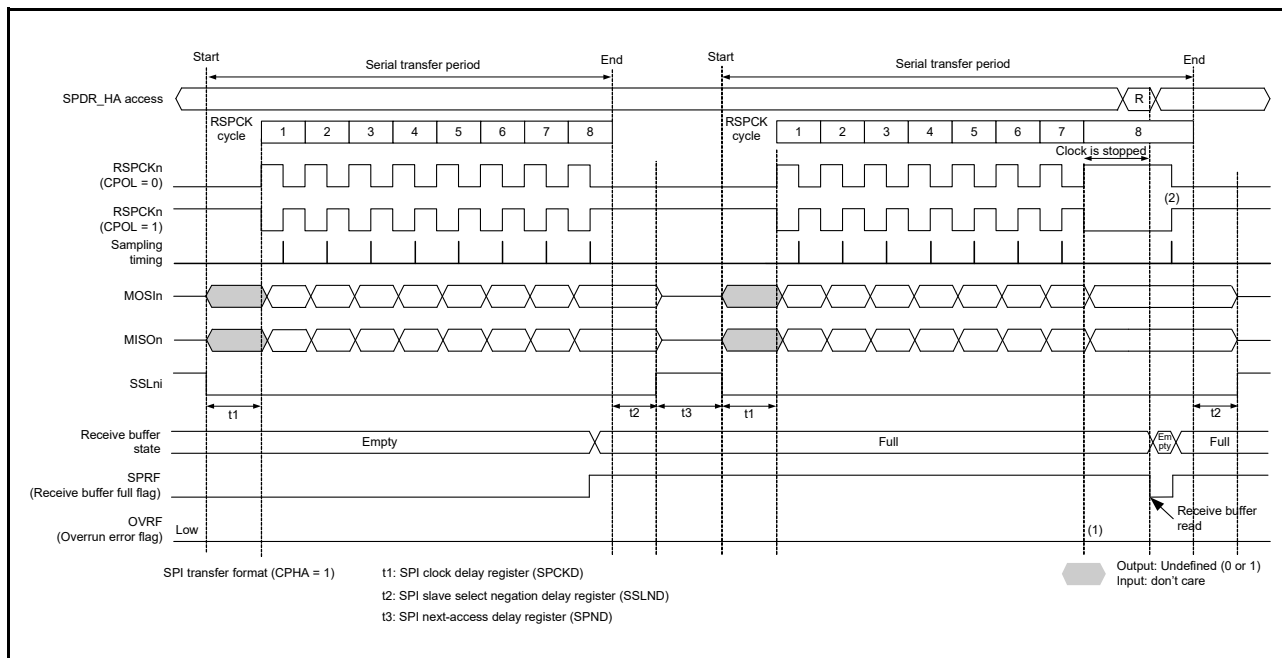
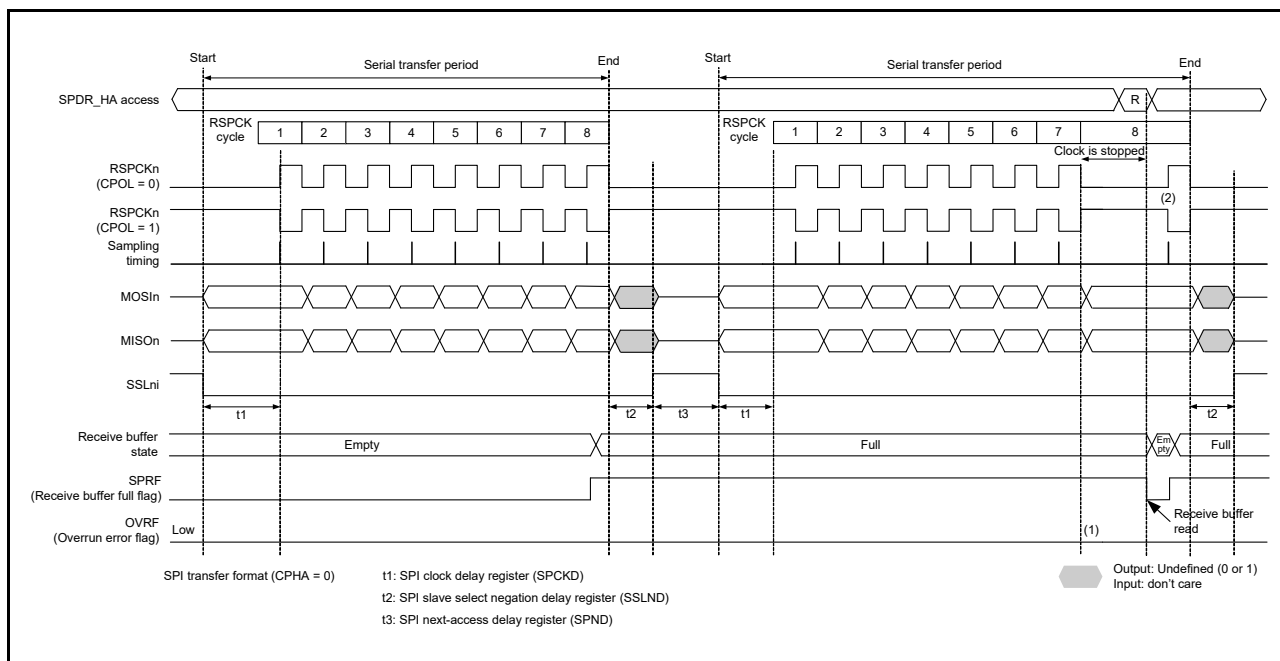

Figure 32.33 Clock stop waveform when serial transfer continues while receive buffer is full in master mode with CPHA = 1
Figure 32.34 Clock stop waveform when serial transfer continues while receive buffer is full in master mode with CPHA = 0
When the RSPCK auto-stop function is enabled in master mode, an overrun error does not occur. Figure 32.33 and Figure 32.34 show the clock stop waveform when a serial transfer continues while the receive buffer is full in master mode.
The operation of the flags at the timings shown in (1) and (2) in Figure 32.33 and Figure 32.34 is as follows:
- (1) When the receive buffer is full, an overrun error does not occur because the RSPCK clock is stopped.
- (2) If SPDR/SPDR_HA is read while the clock is stopped, data in the receive buffer can be read. The RSPCK clock restarts after reading the receive buffer (after SPSR.SPRF flag is set to 0).